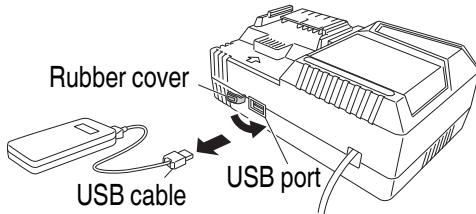

Fig. 38
(3) When charging is completed
- Unplug the power cord from the electrical outlet. (**Fig. 38**)